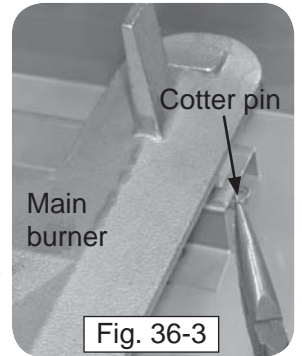

Fig. 36-3
3. Remove the cotter pin from the left or right rear burner anchoring peg by pulling it straight out of the cotter pin hole using fingers or needle-nose pliers (Fig. 36-3).